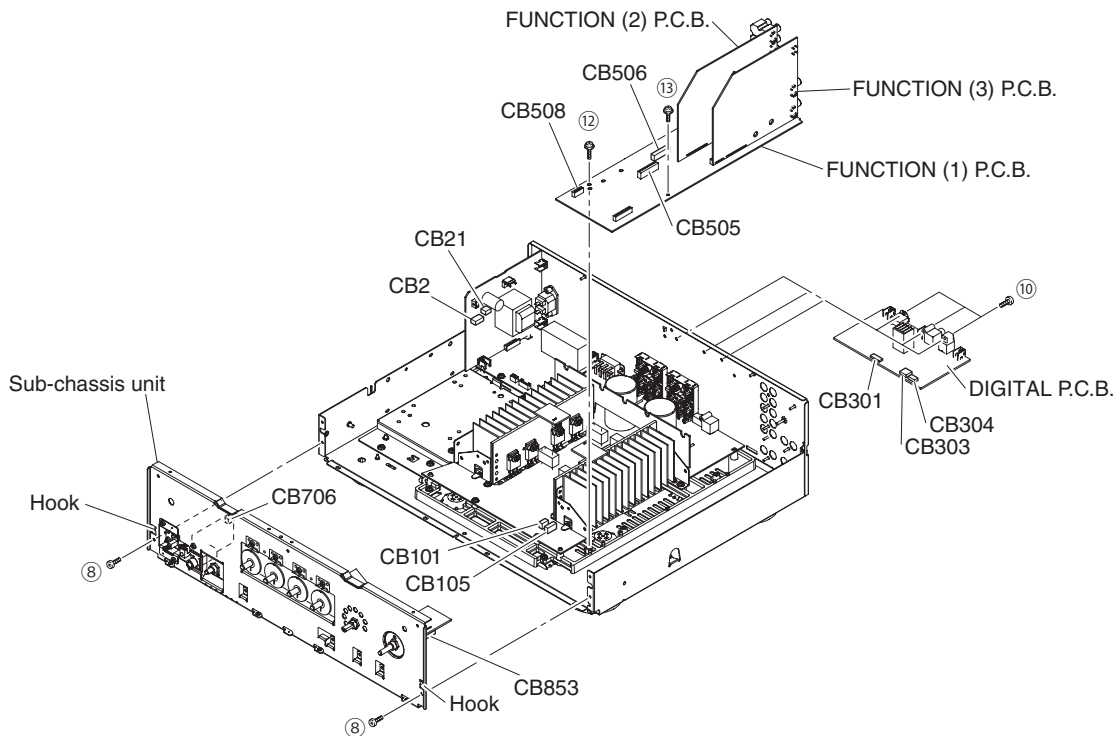

Fig. 2
- Remove 2 screws (⑧). (Fig. 2)
- Remove CB505, CB508, CB706 and CB853. (Fig. 2)
- Release 2 hooks and then remove the sub-chassis unit. (Fig. 2)
- Remove 3 screws (⑩). (Fig. 2)
- Remove CB21, CB301, CB303 and CB304 and then remove the DIGITAL P.C.B. (Fig. 2)
- Remove screw (⑫) and screw (⑬). (Fig. 2)
- Remove CB2, CB101, CB105 and CB404 and then remove the FUNCTION (1)–(3) P.C.B. (Fig. 2)